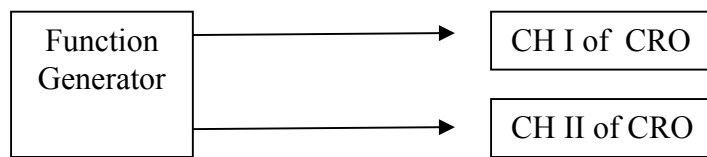

Fig. 1.2
7. Now connect the circuit of Fig. 1.2. (Do not change any settings on the CRO).